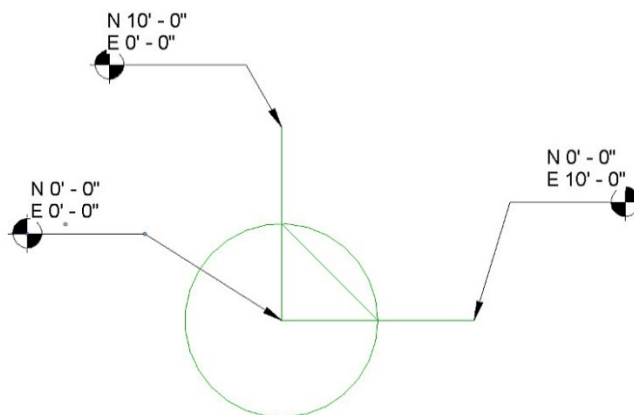

Figure 3-5: Origin exposed by model lines
7. Unreveal the hidden elements by clicking on the lightbulb icon . The Origin is now exposed by the model lines created. The spot coordinates shown in Figure 3-5 mark the center of the model lines as 0'-0".